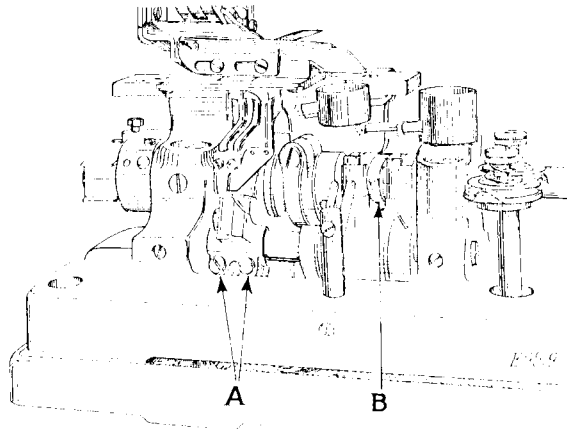

FIG. 7. ADJUSTMENTS ON THE MACHINE
$\frac{3}{16}$ inch. To set the points of the loopers the correct distance from the centre of the needles, loosen the two screws (A, Fig. 7) and move the looper holder bracket as required, then securely tighten the two screws (A).
The needle avoiding motion of the loopers should be timed so that the loopers will pass as close to the needles as possible, on their forward and backward strokes, without touching the needles. To make this adjustment, loosen the three screws in the needle avoiding eccentric (B, Fig. 7) and turn the eccentric in the required direction, after which securely tighten the three screws.